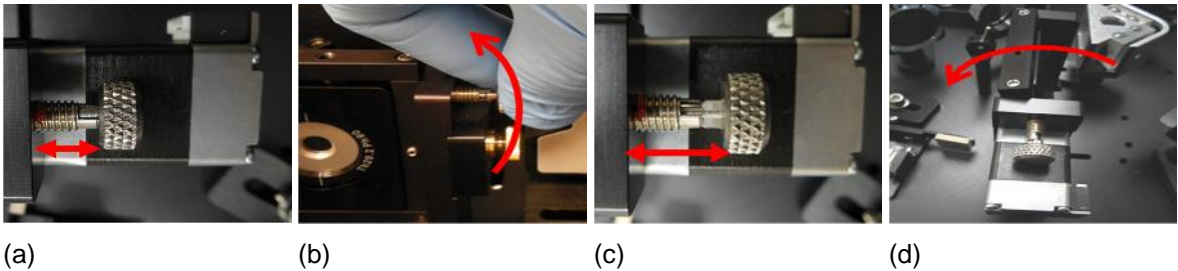

Figure 3. The Crystal Tilt Assembly
1. Follow the steps shown in the Figure 3 below.